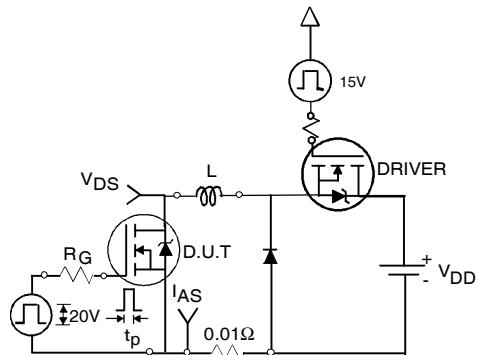

Fig 12a. Unclamped Inductive Test Circuit
- ③ $I_{SD} \leq 125\text{A}$, $di/dt \leq 260\text{A}/\mu\text{s}$, $V_{DD} \leq V_{(\text{BR})\text{DSS}}$, $T_J \leq 175^\circ\text{C}$
- ④ Pulse width $\leq 400\mu\text{s}$; duty cycle $\leq 2\%$.
- ⑤ $C_{oss \text{ eff.}}$ is a fixed capacitance that gives the same charging time as C_{oss} while V_{DS} is rising from 0 to 80% V_{DSS} .
- ⑥ Calculated continuous current based on maximum allowable junction temperature. Package limitation current is 90A.
- ⑦ Limited by $T_{J\max}$, see Fig.12a, 12b, 15, 16 for typical repetitive avalanche performance.
3. Equation below based on circuit and waveforms shown in Figures 12a, 12b.